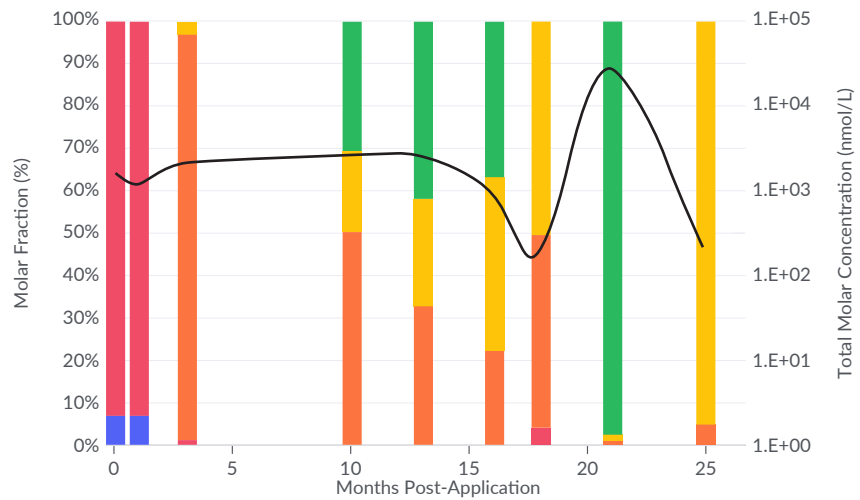

Figure 11
- DHC and VCR populations have remained elevated, ranging from 10³ to 10⁵ cells/ml. Figure 11